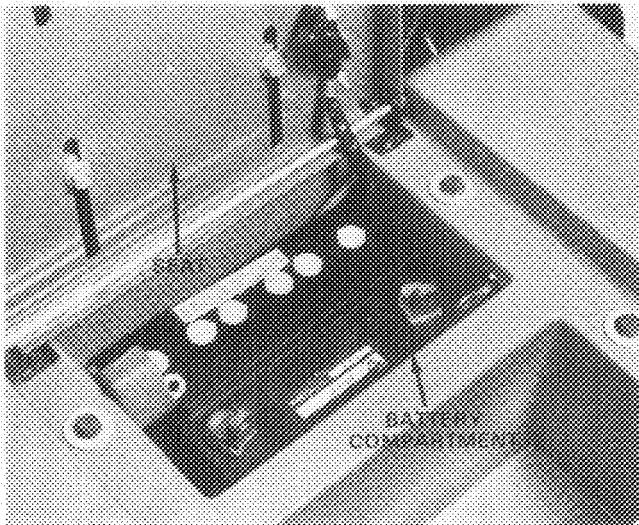

Figure 4
1. Tip the seat forward and lift battery out of compartment (Fig. 4).